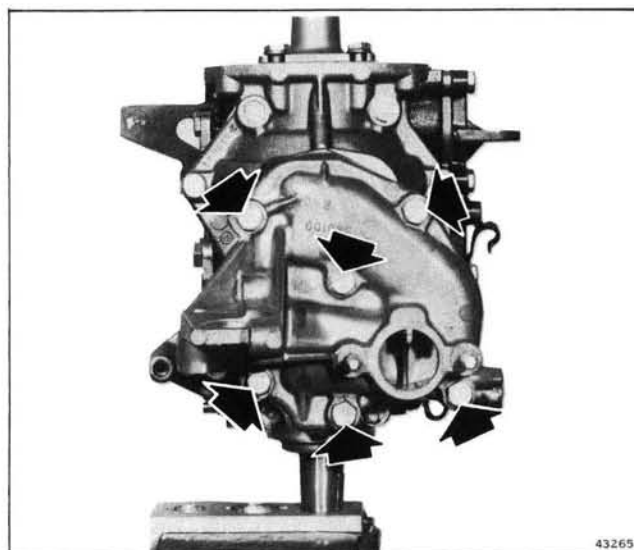

Figure 5-15. Intake Manifold Screws (Six)
f. Remove six intake manifold screws, intake manifold, leaf plate assembly and gaskets. See Figure 5-15.